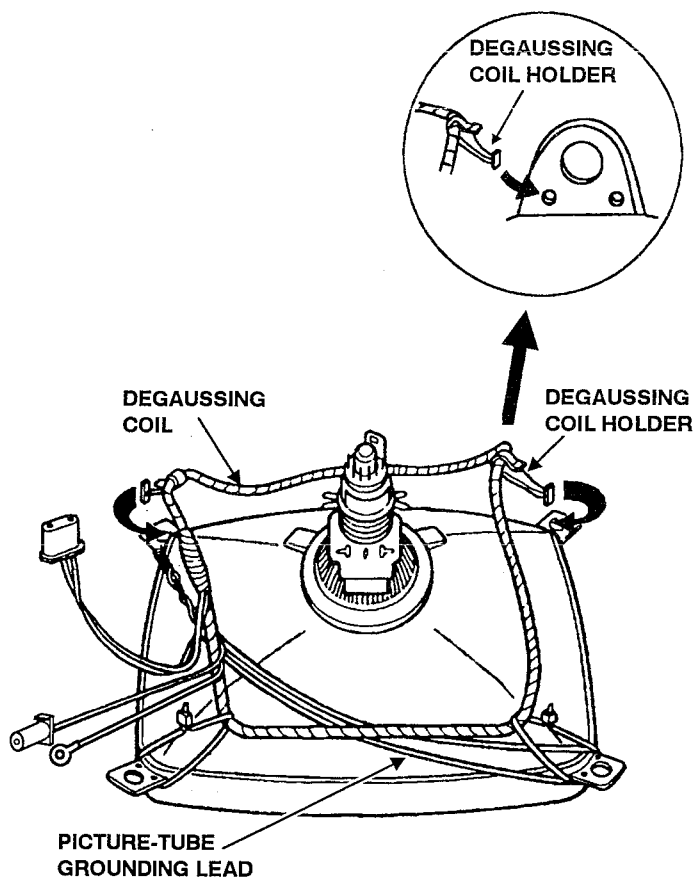

Figure 2. Picture Tube Replacement
4. Install a replacement picture tube in reverse order. Properly install the degaussing coil and picture tube grounding lead on the picture tube. See to Figure 2.
Note: If Picture Tube is being replaced, mount the Degaussing Coil properly on the tube. See Figure 2.